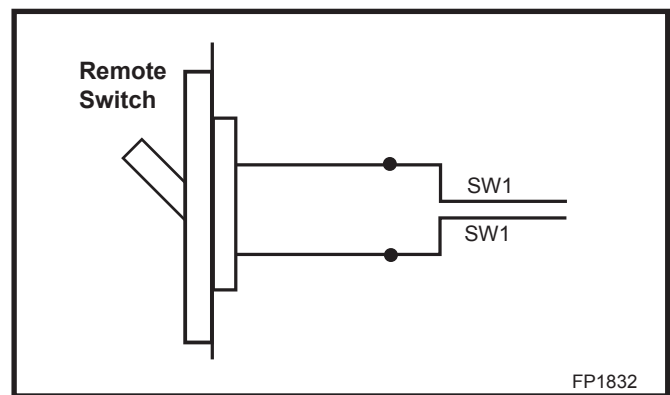

Fig. 7 Remote switch wiring for IN/IP models.
3. Connect the two (2) wires from wall switch to the two (2) brown wires from the control module marked SW1. Be sure to move the Remote/Off switch on the control module to the OFF position. (Fig. 7)